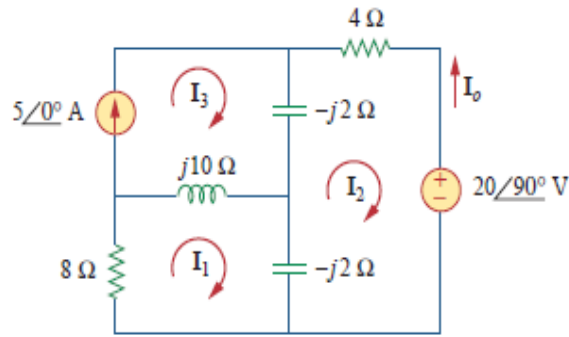

Fig. 10
a) Find $I_0(t)$ in the circuit for given Fig. 10